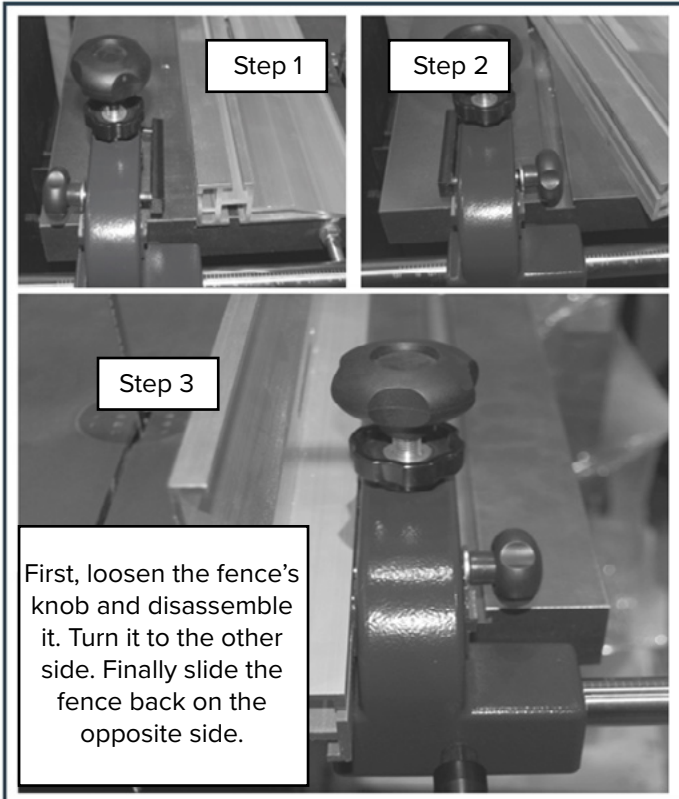

Figure 23: Switching Sides.
- Loosen the side handle (#7F) Fig.23 that holds the rip fence against the Fence Carrier (#9F).
- Slide the fence forward to remove it from the carrier's sliding block (#11F) Fig. 23.
- Loosen the side handle (#7F) Fig. 23 (A) and slide the fence forward to remove it from the carrier's sliding block (#11F, C).
- Rotate the fence 180° end-to-end and slide it back onto the carrier Fig. 23. Retighten the side handle to secure the fence in position on the carrier Fig. 23.